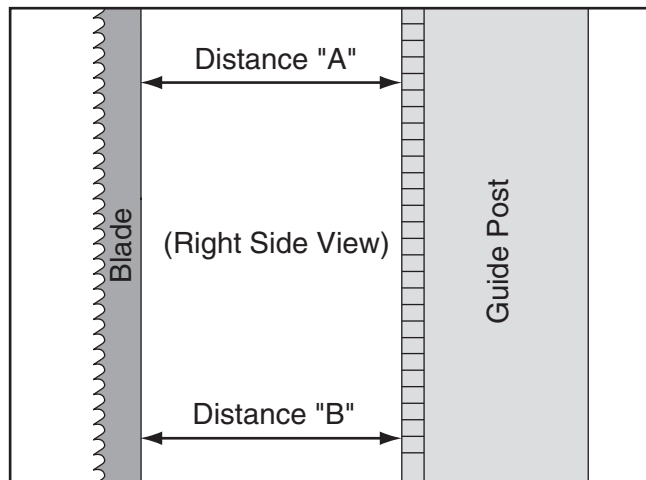

Figure 70. Example of measuring distance between rack and blade at top of guide post.
4. Measure distance "A" between top front face of guide post rack and back of blade (see **Figure 70**).
5. Measure distance "B" between bottom front face of guide post rack and back of blade (see **Figure 70**).